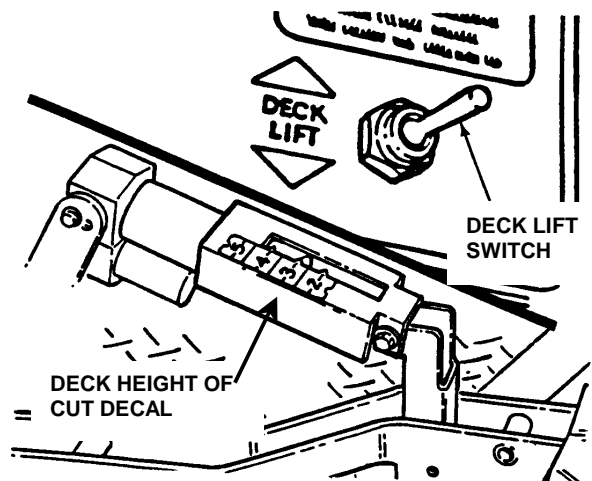

FIGURE 3.9
1. Adjust cutting height as desired to any position, using deck lift switch. When in desired height of cut, release switch. See Figure 3.9. Observe the height of cut decal located on the upper right top side of the deck to place deck at the correct height of cut. See Figure 3.9. **NOTE:** The engine does not have to be running to adjust cutting height, but key switch must be in the "ON" position.